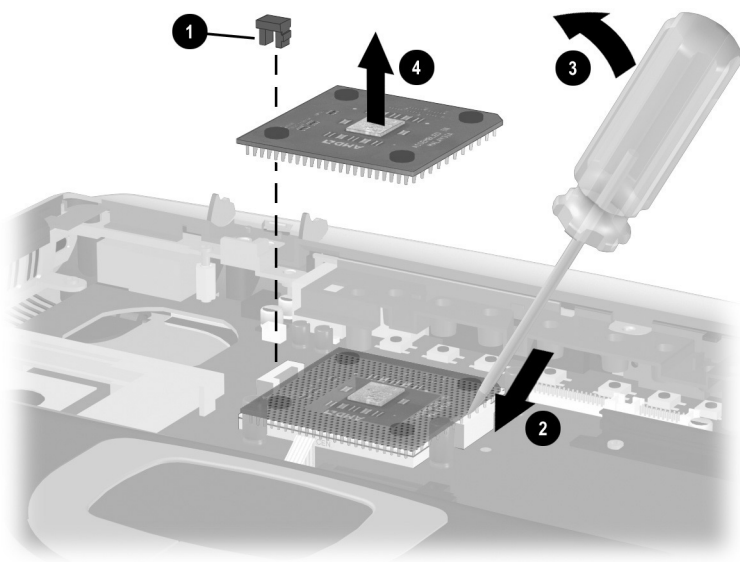

Figure 5-30. Removing the Processor
2. If a stopper ❶ is installed in the left slot (marked “Lock”), remove it (Figure 5-30).
3. Insert a flat-bladed tool into the right slot (marked “Open”) ❷.
4. Swing the tool to the left ❸ to unseat the processor from the socket on the system board.
5. Lift the processor straight up and remove it ❹.